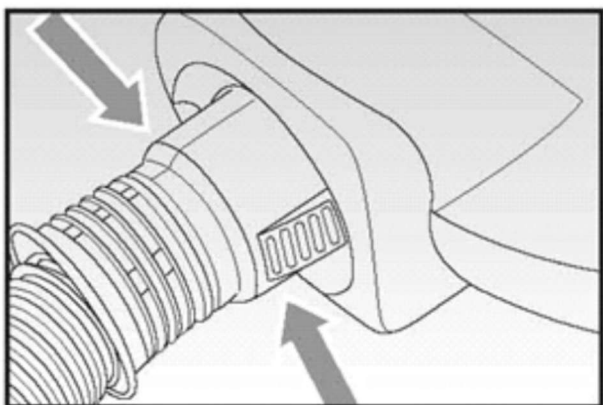

Fig. 2
- Insert the suction device coupling (N) into the air inlet opening (H) and press until it clicks into place. To remove it, it is necessary to press the two release buttons (R) at the same time and to pull it out (Fig. 2).